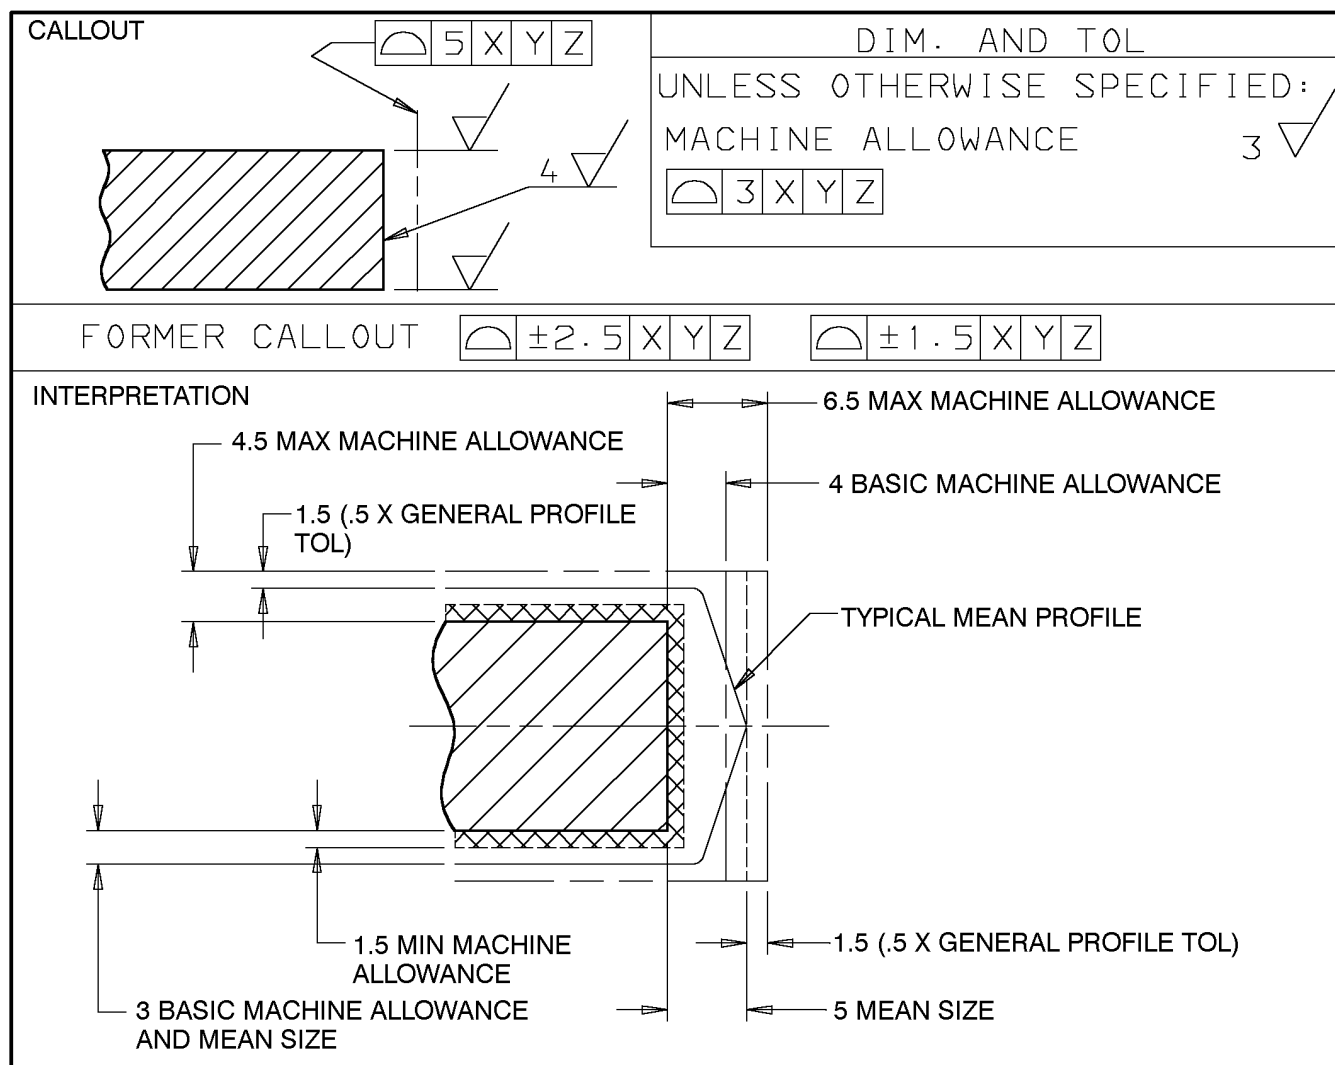

Figure 14 - Mean Size Calculation
**10.4.1 Non-Drafted Surface -** Mean size is obtained by subtracting half the general profile tolerance (.5 x 3 mm) from the maximum machine allowance (4.5 mm). Mean size is 3 mm and coincides with the basic machine allowance as illustrated by the horizontal surfaces in Figure 14.
**10.4.2 Drafted Surface -** Mean size is obtained by subtracting half the general profile tolerance (.5 x 3 mm) (note that this is not the profile tolerance used to establish maximum machine allowance) from the maximum machine allowance (6.5 mm). Mean size is 5 mm and does not coincide with the basic machine allowance as illustrated by the vertical surface in Figure 14.